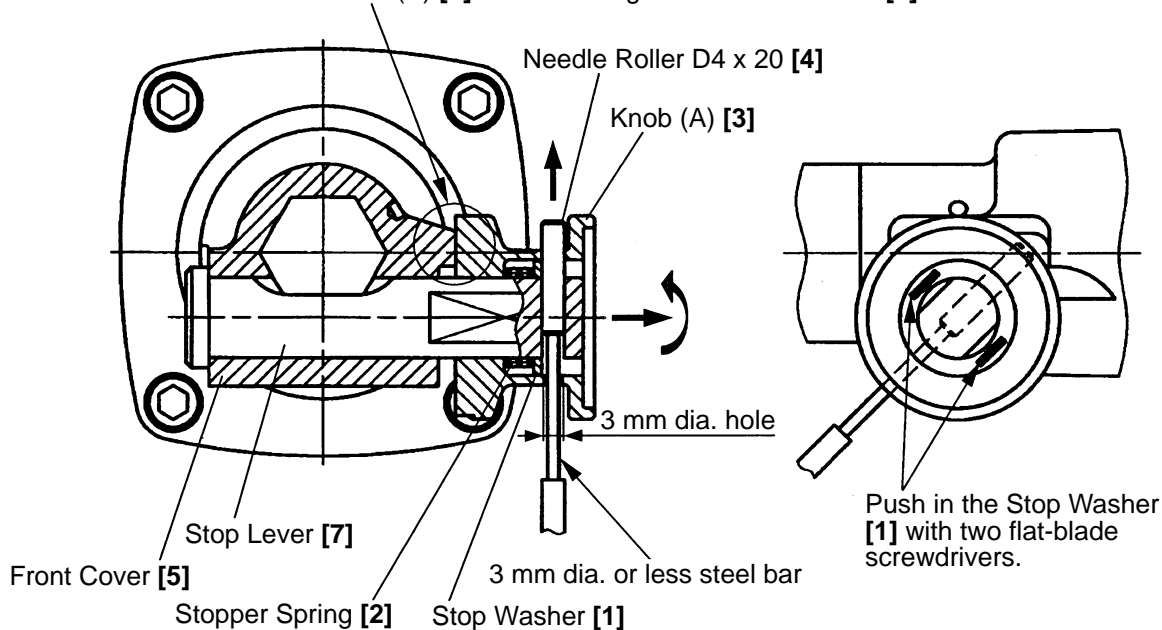

Fig. 8
(1) Disassembly of the tool holder
Disassembly procedures are illustrated in Fig. 8. Pull Knob (A) **[3]** outward in the direction indicated by the arrow, and turn it slightly so that its end surface comes to rest on the flange portion of the Front Cover **[5]**. Push in the Stop Washer **[1]** with two flat-blade screwdrivers to compress the Stopper Spring **[2]**, and insert a steel rod (less than 3 mm in diameter) into the 3 mm diameter hole in Knob (A) **[3]** to push out the Needle Roller D4 x 20 **[4]**. The Stop Washer **[1]**, Stopper Spring **[2]**, Stop Lever **[7]** and Knob (A) **[3]** can then be taken off.